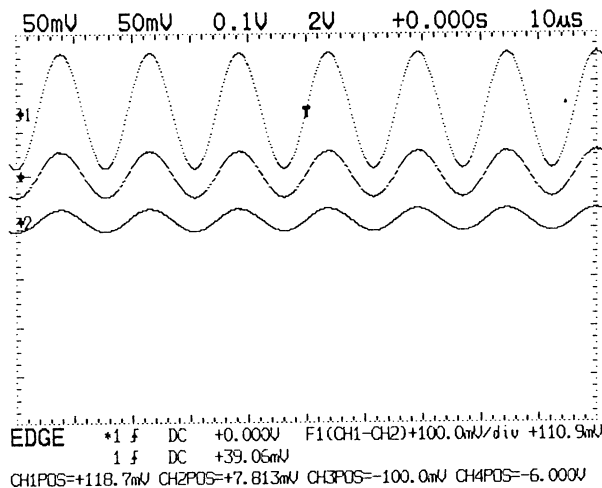

Fig. 6-32 Example of subtracted waveform screen
- (c) Press the ENTER key of the MENU section. Then, the menu disappears and the screen shown in Fig. 6-32 is displayed.